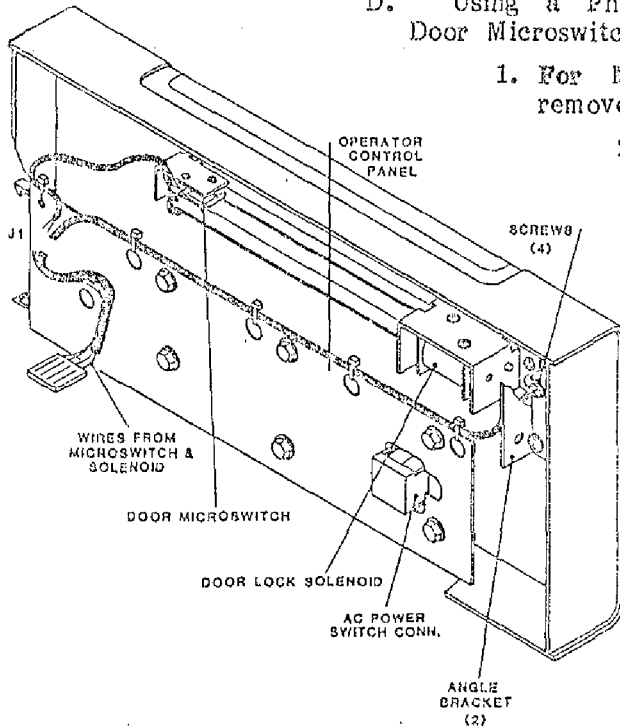

Figure 5-18. Panel Assembly
5.3.22 PANEL ASSY, DOOR MICROSWITCH, AND DOOR LOCK SOLENOID (Fig 5-18)